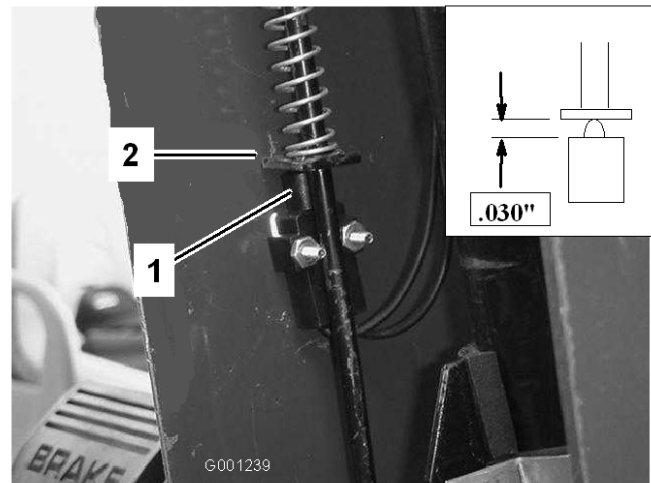

Figure 57
3. Slide the cover up the steering shaft to expose the parking brake switch (Figure 57).
5. Align the parking brake rod paddle with the switch plunger (Figure 57)
6. Press down on the parking brake rod and push up on the switch until the compressed length of the switch plunger is 0.030 inches (Figure 57, inset). This is the distance between the brake rod paddle and the switch plunger housing.